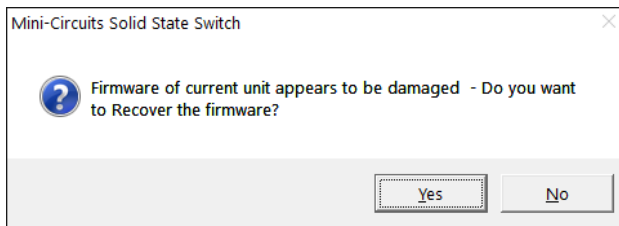

Figure 3.3.9 Firmware recovery notice
3.3.9 **When you attempt to connect a unit with** damaged firmware that supports the recovery option an alert (See **Fig 3.3.9**) will appear. Click 'Yes' to restart the firmware upgrade and repeat the attempt to install the firmware, or 'No' to cancel.